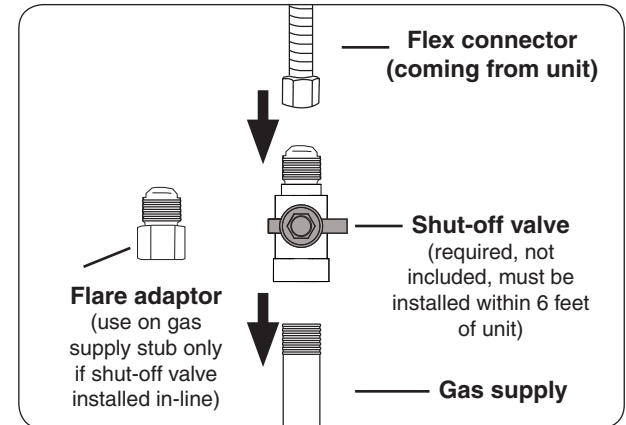

Fig. 19-3 Connecting to a gas line
- Connect the flex connector to the shut-off valve (see Fig. 19-3). Tighten securely.
- Install the supplied flare adaptor to the gas supply using a pipe joint compound resistant to all gasses (see Fig. 19-3). Tighten securely.
- Connect the flex connector to the flare adaptor (see Fig. 19-3). Tighten securely.